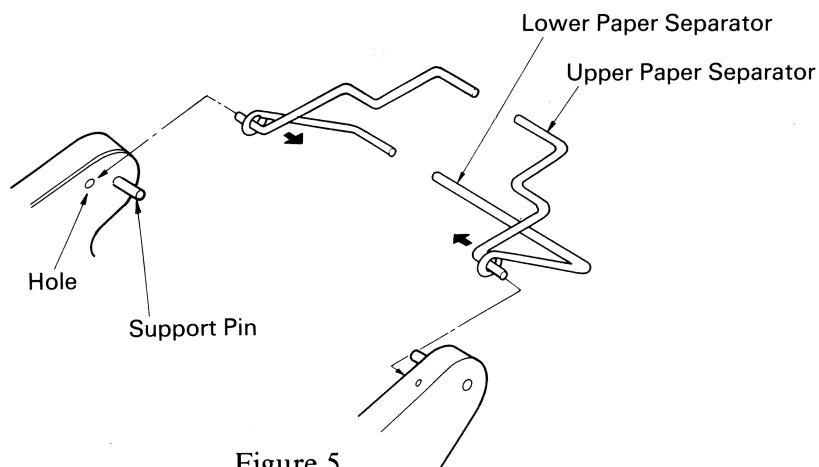

Figure 5
7. Insert the two-piece Paper Separator (if not installed yet) by gently squeezing the ends towards each other and inserting them into the holes on the back of the Tractor Feed. Be sure the lower part of the Separator sits on top of the support pins. (See Figure 5.)